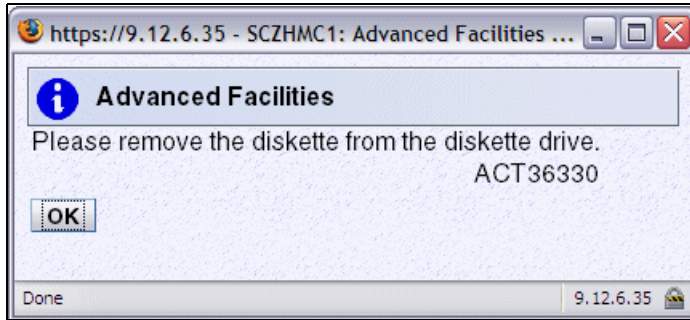

Figure 3-34 HMC - OSA Advanced Facilities (Remove diskette)
11. Remove the diskette from the drive as instructed by the message displayed in Figure 3-34 on page 93; click **OK**. You can now click **Cancel** to exit all OSA Advanced Facilities panels.